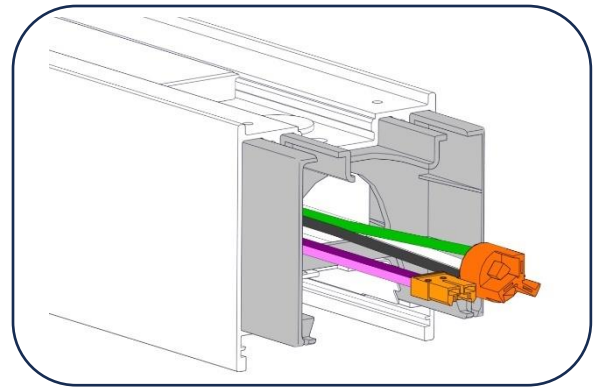

Figure 5
18. Insert a **Plastic Joiner** into Side B of the starter fixture, feeding the Harness wires through the center. [Figure 5]